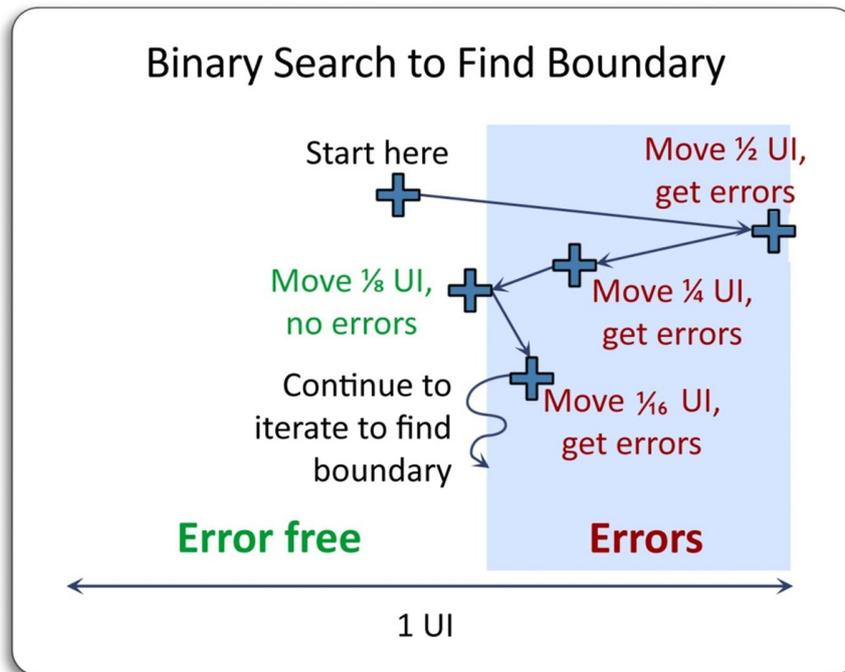

FIGURE 51. LOCATE OPTIMUM DELAY
3. Once error free operation is obtained, locate the boundary between error free and errored operation by decreasing the Generator Delay and using a binary search method as shown in Figure 51. Record the Generator Delay.